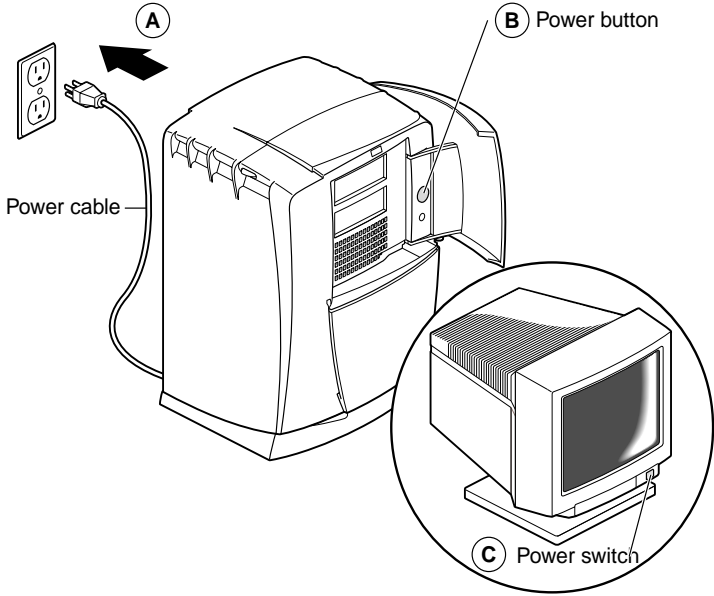

Figure 18 Powering On the Workstation
1. Plug the power cable (see A in Figure 18) into an electrical outlet.
2. Press the power button (B) on the front of your workstation.
3. Press the monitor power switch (C) to power on your monitor.